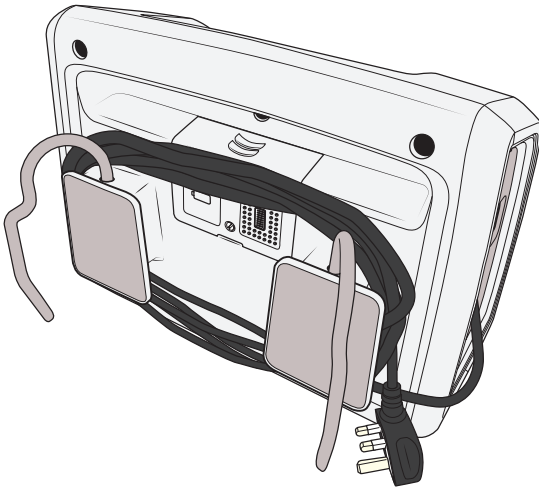

Figure 62
2. Wrap the power cable around the hanging brackets. See Figure 62